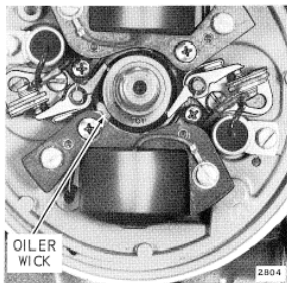

Figure 4-16. Oiler Wick
c. Make sure that a new oiler wick is installed under the forward coil. See Figure 4-16.